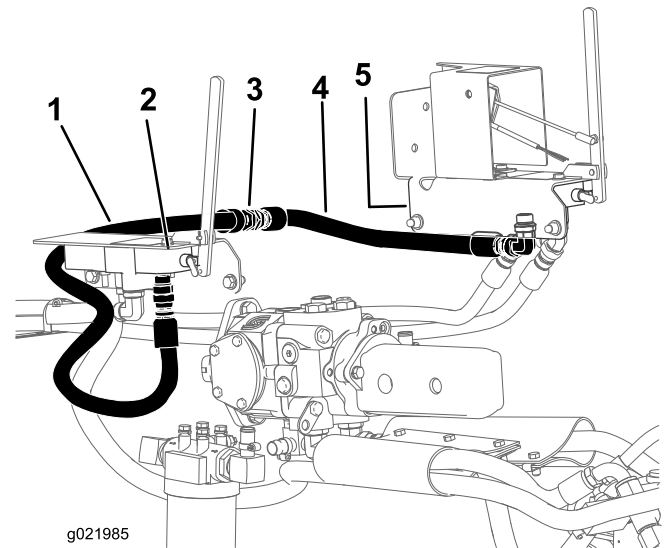

Figure 21
5. Route hose C (36 inches) from the straight fitting (In Port) on the hydra-borer control valve (Figure 14) to the hose connector on hose D (Figure 21).